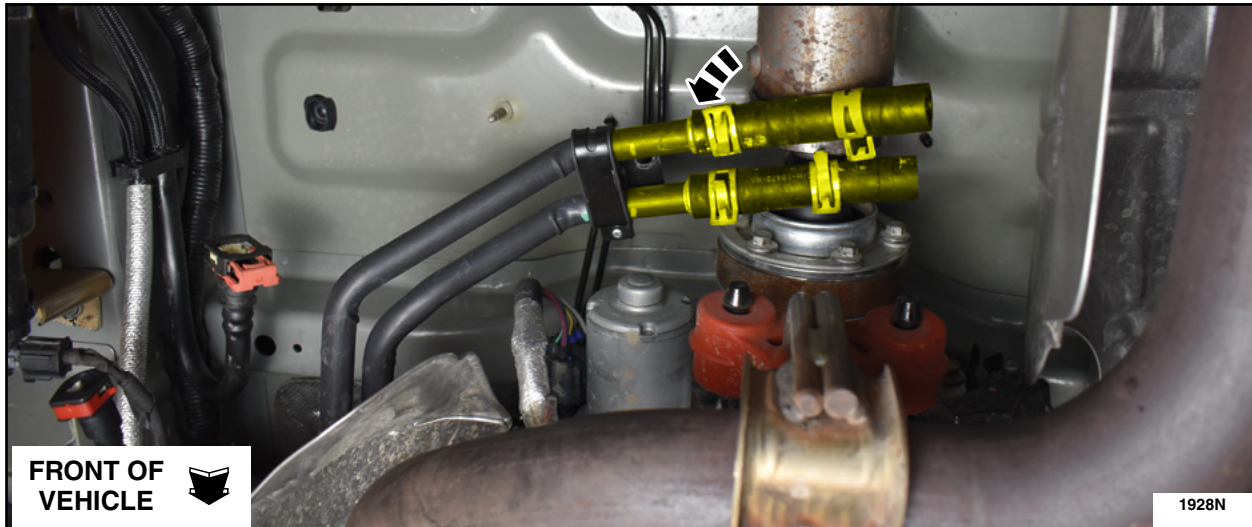

FIGURE 14
15. Position the rear heater coolant lines under the rear driveshaft. See Figure 14.